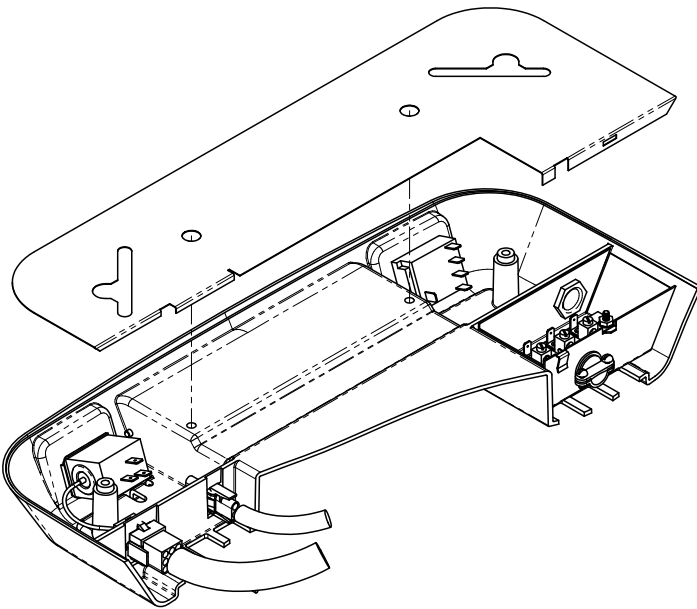

FIGURE 7
- C. Plug the heater cord from the upper unit into the 2 position receptacle (See Figure 7).
- E. Plug the roof top air conditioner electrical conduit into the 9 position receptacle located in the thermostat side of the ceiling assembly (See Figure 7).
- H. Place the metal control box shield over the thermostat, switch and field wiring boxes. Make certain that all wires are pushed into the control boxes or laying in the wireway between the thermostat and switch boxes and will not be pinched by the control box shield. Control box shield is properly installed when the two holes in shield are aligned with the two screw holes in the ceiling assembly chute (See Figure 7).
- J. The ceiling assembly shroud is curved to contour to a crowned ceiling. If installation is to a flat ceiling and gaps are present on the sides of the shroud, insert the four optional 3/4 inch screws (provided) through the mounting posts and secure them to the mounting frame above (See Figure 7, 8 and 9 for screw locations).